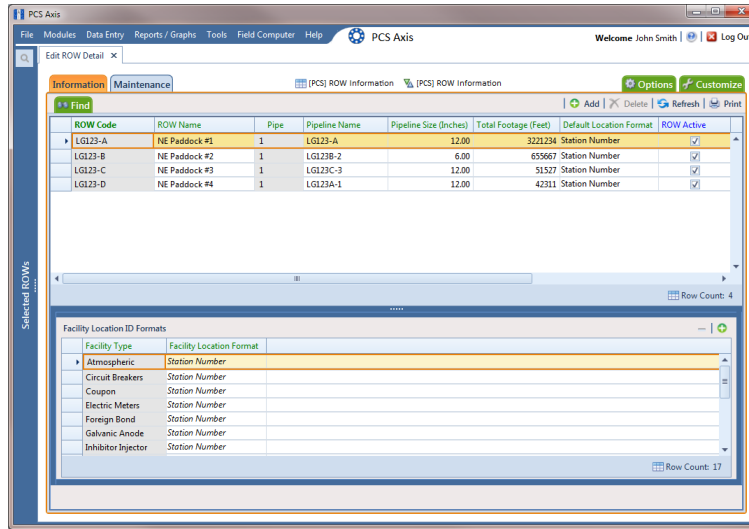

Figure 4-32. Edit ROW Detail
- 2 Click **Data Entry > Edit ROW Detail** to open the *Edit ROW Detail* window. If you want to collapse the *Selected ROWs* panel to view more of the *Edit ROW Detail* grid, click **Selected ROWs**. To expand the panel, click **Selected ROWs** again (Figure 4-32, page 169).
- 2 Click **Data Entry** > **Edit ROW Detail** to open the *Edit ROW Detail* window (Figure 4-32, page 169).
- 2 Click **Data Entry > Edit ROW Detail** to open the *Edit ROW Detail* window (Figure 4-32, page 169).